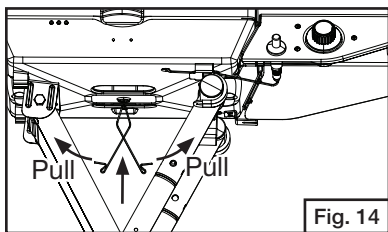

Fig. 14
- Pull apart the grease cup holder and insert it into drip hole on bottom center of grill base. (Fig. 14)